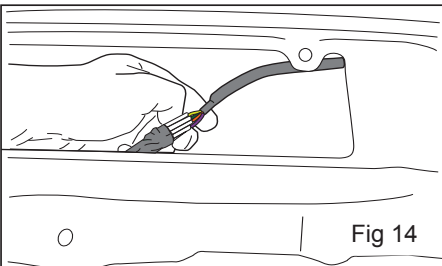

Fig 14
13. Pull 55 inches of harness through with your left hand while feeding the slack with your right. (Figure 14)